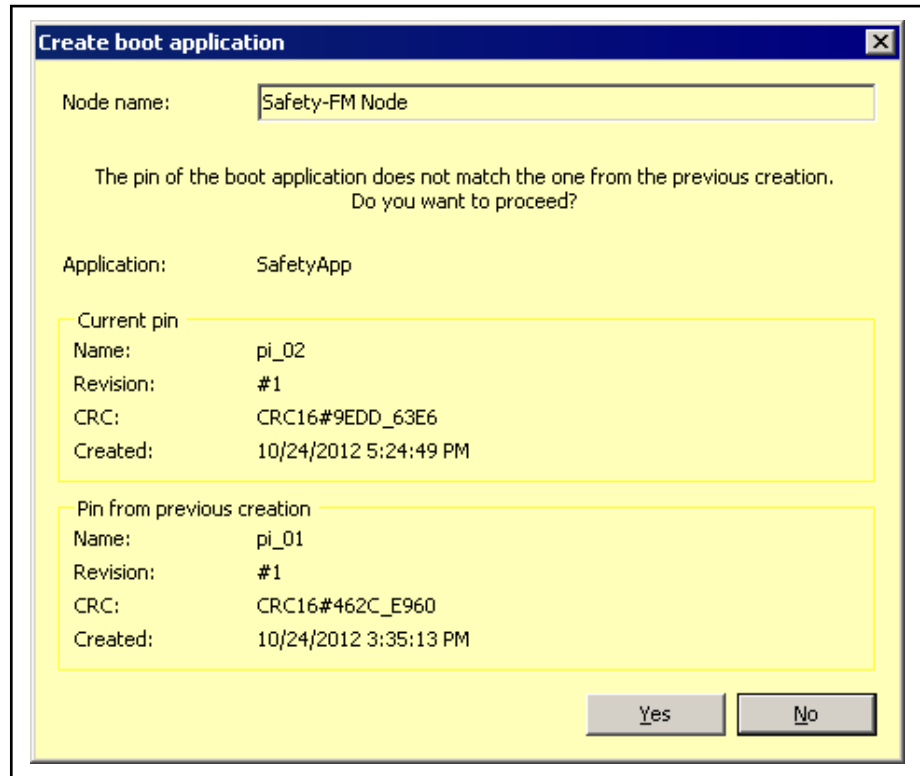

Fig. 8-9: Create boot application with different pin
- The application is consistent with the pin, however not with the pin of the latest boot application that was created from this project (see fig. 8-9 "Create boot application with different pin" on page 126).